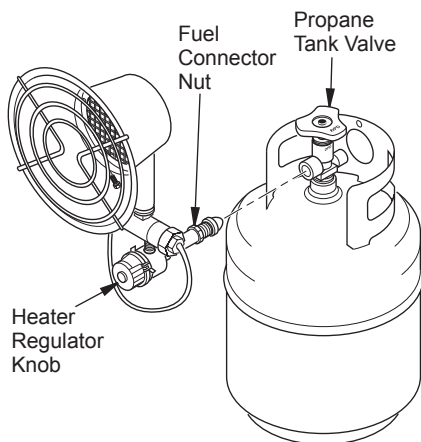

Figure 1
3. Wrench tighten the fuel connector nut into the propane tank valve (see Figure 1, page 3). Turn fuel connector nut counterclockwise to tighten. Threads are left-handed.
⚠ WARNING: Attach heater in upright position as shown in Figure 1. Never attach heater in a horizontal position. This could lead to dangerous flare-ups or fire.